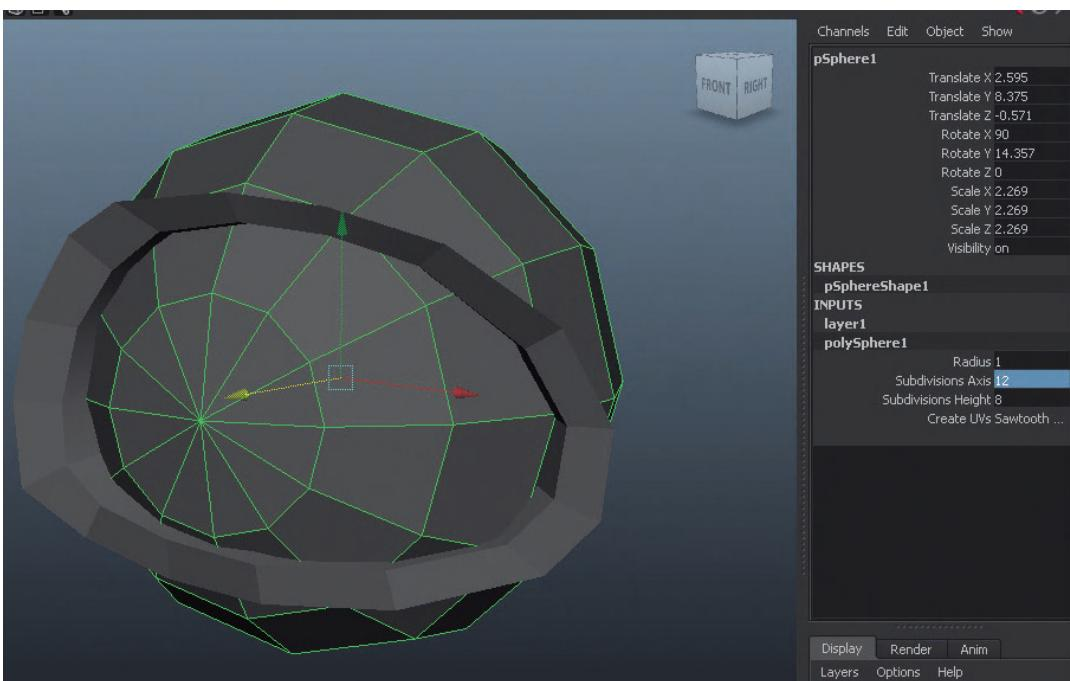

FIG. 4.15 Results of decreasing the geometry in the eyeball.
Step 28: Reduce the number of polys in the eyeball. Do this by unreferencing the eyeball layer (clicking the R button in the Display Layers Editor) and selecting the eyeball itself. Then, in the Channel Box, expand the INPUTS section and click the polysphere1 node. There, enter 12 in the Subdivision Axis input field and 8 in the Subdivisions Height input field (Fig. 4.15).